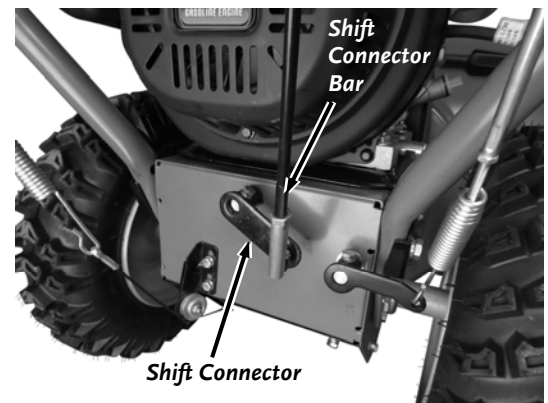

Figure 14
11. Remove the Locknut from the lower Gimbal end of the Shift Connector Bar and insert the threads through the Shift Connector at the center of the machine (**Figure 14**).